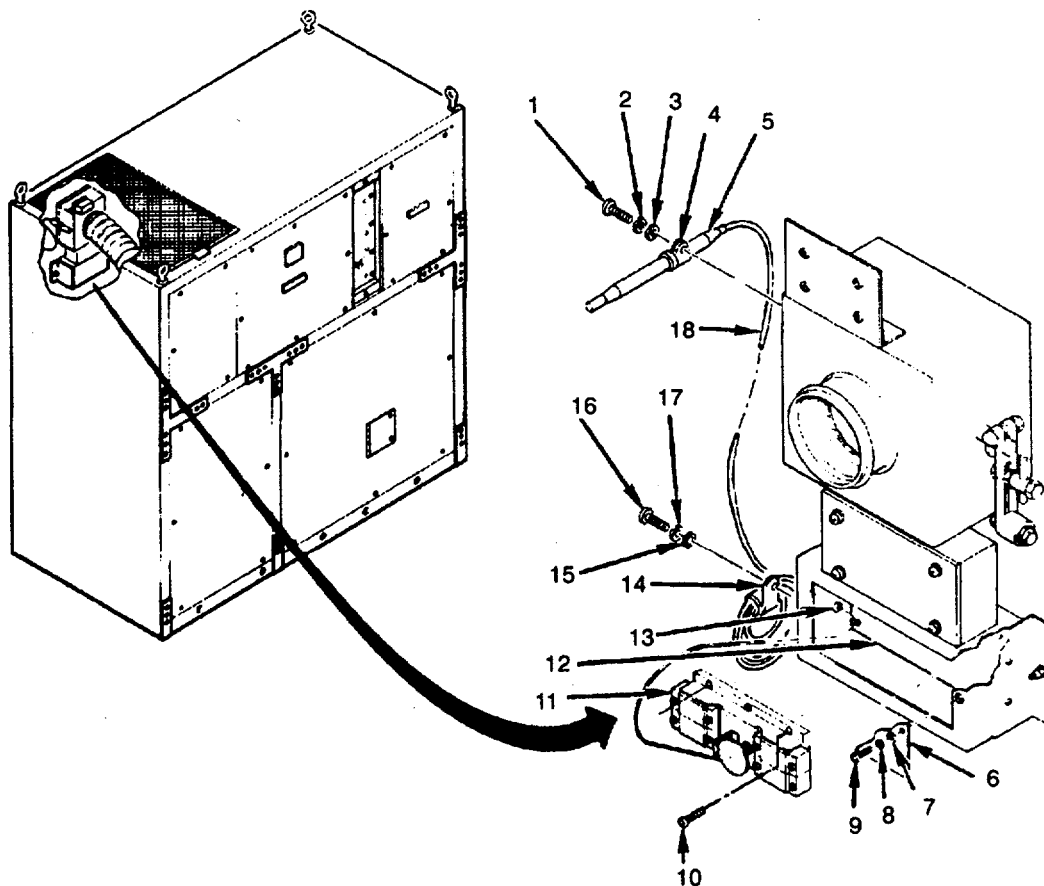

Figure 4-87. Cool Control Thermostat (S14)
1. Remove two screws (9), flat washers (7), lockwashers (8), and cover (6). (See Figure 4-87).